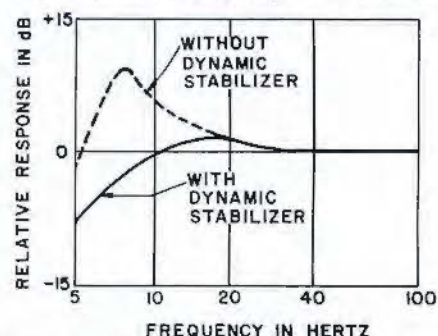

Fig. 1. Curve shows effects of use of dynamic stabilizer, as measured by Shure.
**Getting Damped.** The application of mechanical damping to the typical record-playing system is likely to be beneficial, Shure has decided, as long as the damping is applied at the proper place and in the proper amount. The proper place is said to be as near the stylus as possible, and the proper amount will of course depend on the characteristics of the cartridge and the effective mass of the tonearm structure, assuming negligible bearing friction. The effects of properly applied damping (with the Shure/SME 3009 tonearm) can be seen in Fig. 1. The damping mechanism being used is an integral part of a new Shure cartridge model (of which more a bit later), and its contribution is said to be a hefty reduction of output at the infrasonic tonearm/cartridge resonance.